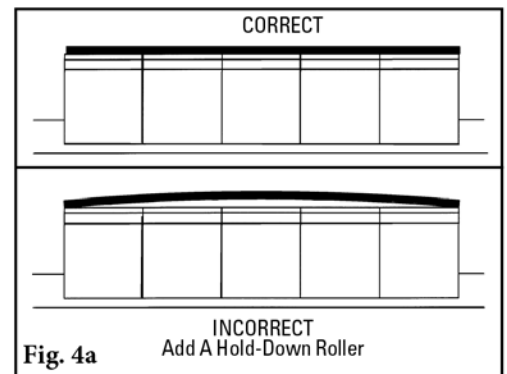

Fig. 4a
4. **Set the blade tension.** Turn the top adjusting bolt jam nuts down until light tip contact is made across the entire width of the cleaner. Add an additional 1½ turns on the top adjusting bolt jam nuts and lock the bottom adjusting bolt jam nuts. Tighten all clamp block lock bolts. **NOTE:** If the belt is cupped, do not overtension the blades to contact the belt. A hold-down roller should be installed to flatten the belt (Fig. 4a & 4b). (Try the Stabilizing Return Roller or Stabilizing Roller Bracket Kit.)